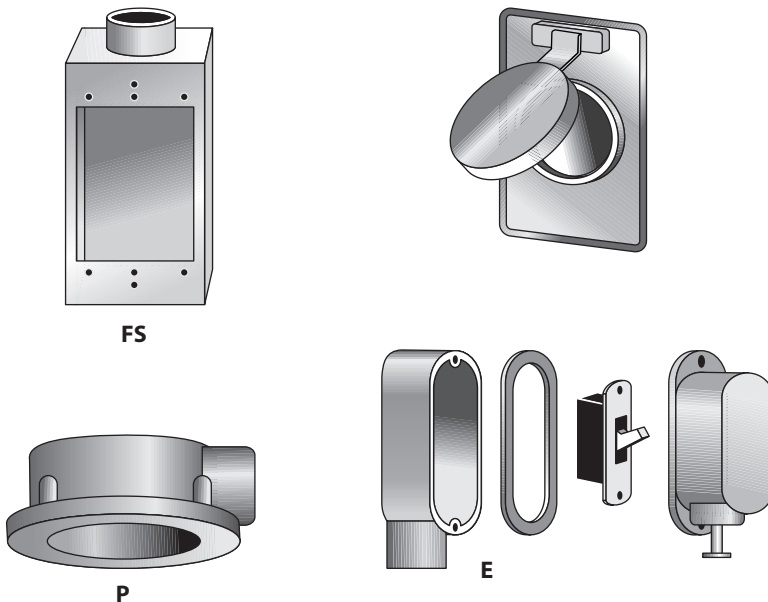

Fig. 27-2 Larger enclosures are used to support switches, receptacles, luminaires, etc.
Don't confuse conduit bodies with boxes that have threaded hubs, such as the Type FS and Type P boxes in Fig. 27-2. These are boxes and are subject to the same volume calculations for boxes as covered at the end of Chapter 10. Also shown in Fig. 27-2 is a Type E with a special gasketed cover that permits installation of a toggle switch outdoors. On exposed runs of conduit, luminaires can be mounted on round Type P fittings.
- The box must have threaded entries. These are usually cast into the box (as in the FS box, Fig. 27-2), but hubs of the sort pictured in Fig. 27-4 can also be added to a sheet metal box, and once added they qualify the box for this procedure. This rule prohibits under any circumstances the use of locknuts on the end of conduit runs as the means of supporting boxes.